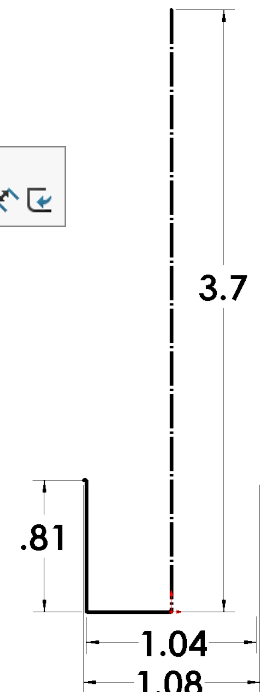

Fig. 4
Step 8. Dimension lines, **Fig. 4**. Dimension **double distance both diameters**. To double distance dimension inside diameter, click centerline and then left vertical line, move the cursor Origin and click. Key-in 1.04 in the Modify box and press ENTER. Double distance outside diameter.